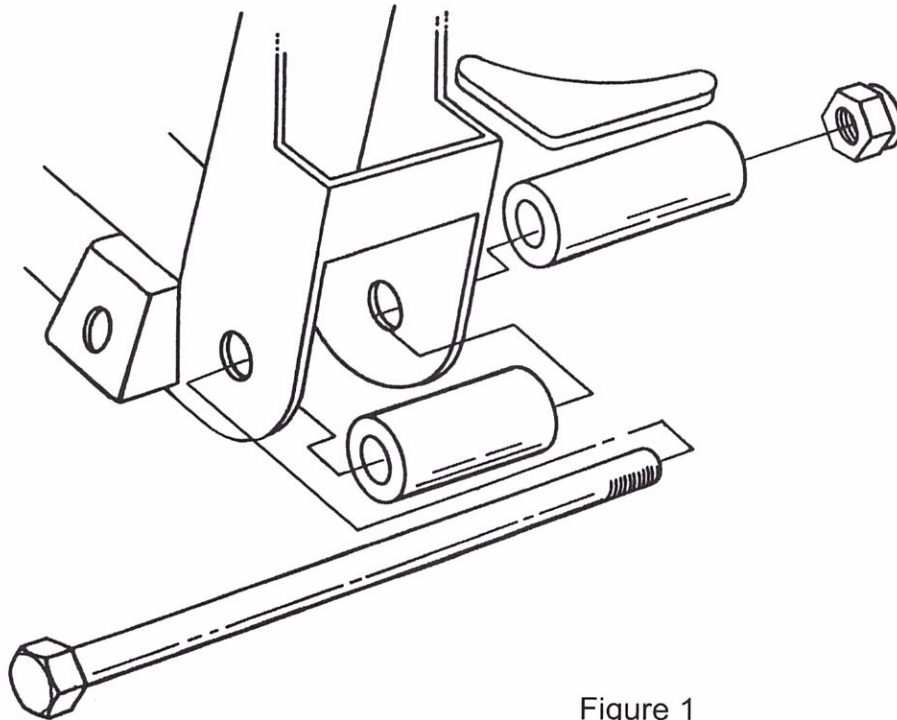

Figure 1
4. If you purchased a complete I.F.S. Package , it was supplied with Full Lower A-Arms. Begin by installing the Spacers onto the crossmember. The holes where the lower control arms attach to the Crossmember must be enlarged to 5/8". Mount the Crossmember Spacers and the Rear Spacers which were supplied with the Lower Control Arms onto the Crossmember as shown in Figure 1 using the supplied Inner Bushing Bolts, Nuts and a temporary spacer under the Nuts. DO NOT use the A-Arms for this operation as the welding heat will melt the rubber bushings. Tighten the Bolts and Nuts tight. Weld the Rear Spacers to the Crossmember all around. Weld the Crossmember Spacers as far as possible inside the crossmember on both ends. Position the Gussets horizontally, not vertically, against the Rear Spacers and the back of the Crossmember. Weld Gussets to Spacers and Crossmember. When it cools, remove the bolt.